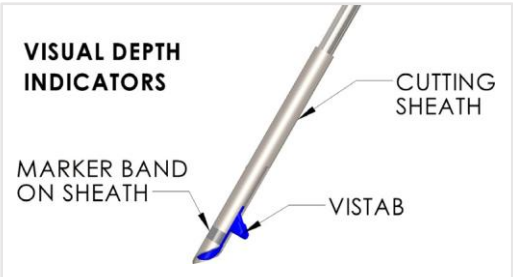

Figure 5 - Close up of loaded tympanostomy tube showing correct lateral and medial flange location within cutting sheath and sheath depth indicator.
3. Verify that the tympanostomy tube is properly loaded within the cutting sheath and that the lateral flange, or Vis-Tab, is visible (see Figure 5)
|        | None     | +90 Tip                          | Indicates the HTTS has a +90 Tip orientation. When the inserter is viewed as shown in Figure 5, the Vistab points to the right (or +90 degrees from vertical) |
|        | None     | -90 Tip                          | Indicates the HTTS has a -90 Tip orientation. When the inserter is viewed as shown in Figure 5, the Vistab points to the left (or -90 degrees from vertical)  |